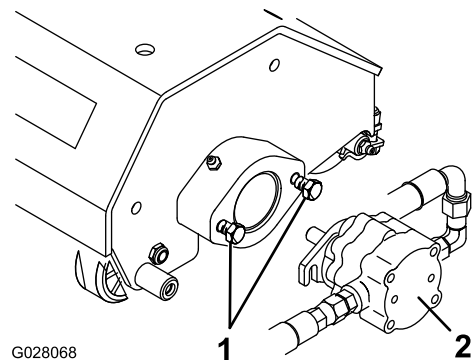

Figure 8
- A. Loosen the mounting screws and washers for the reel motor to each tri-roller. Leave approximately 1 cm (1/2 inch) of threads exposed on each mounting screw (Figure 8).